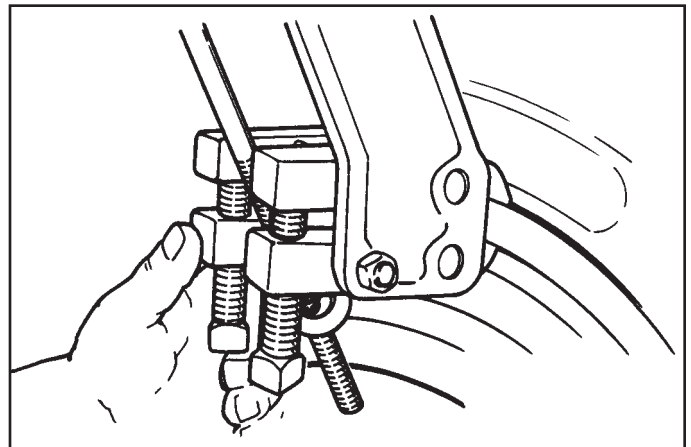

Figure 1
1. Attach the TO-100 frame assembly to the outer rim flange by slipping the clamping jaws over the outer edge of the flange. See Figure 1.